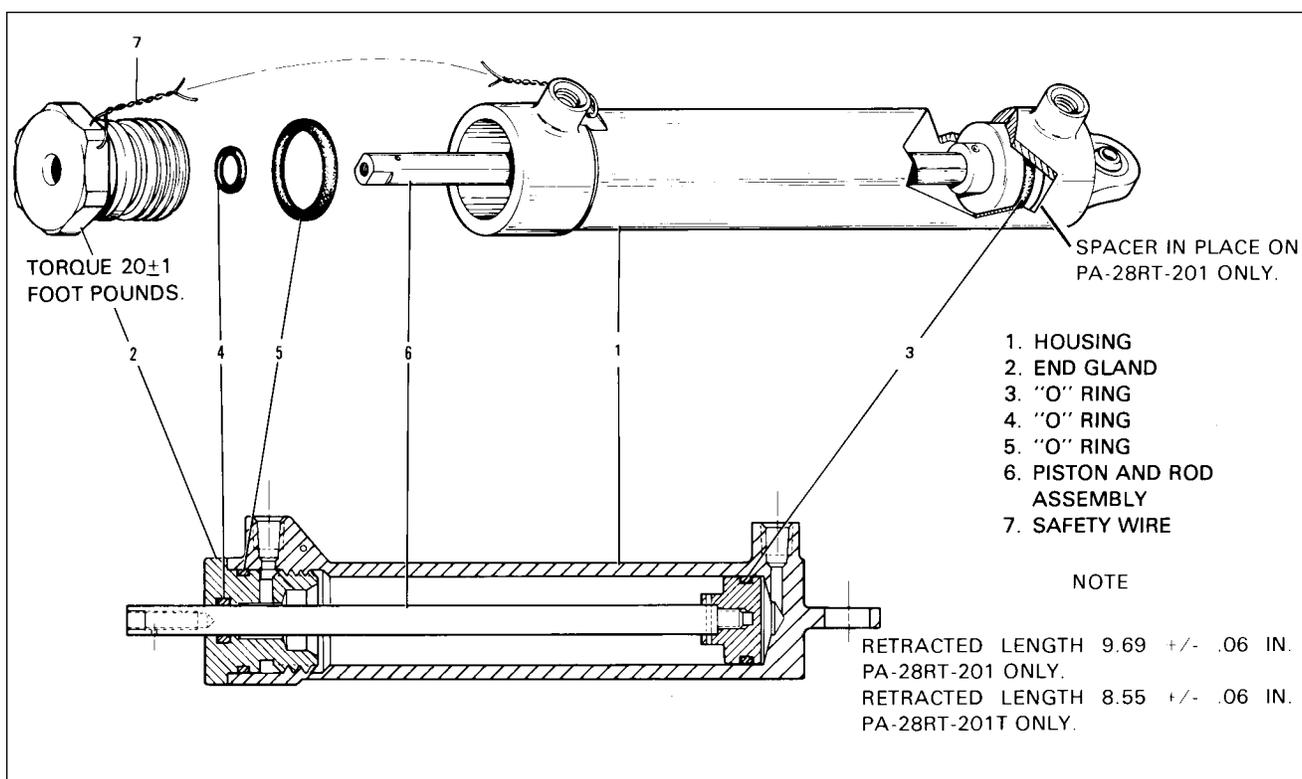

Figure 29-9. Nose Gear Actuating Cylinder
**DISASSEMBLY OF NOSE GEAR ACTUATING CYLINDER.** (Refer to Figure 29-9.)
**ASSEMBLY OF NOSE GEAR ACTUATING CYLINDER.** (Refer to Figure 29-9.)